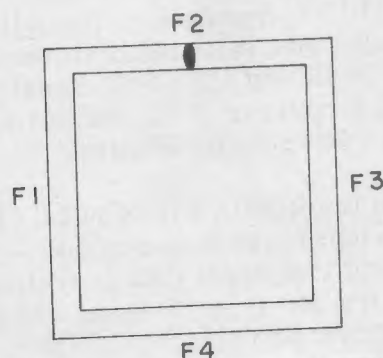

Figure 4-13.—F2 Peaked.
l. Rotate the BFO MICRODIAL counterclockwise until the dot returns to the center of the CRT. Now rotate the F2 DEFL GAIN clockwise until the dot is slightly off the center of the CRT. Adjust the MICRODIAL and F2 DEFL GAIN until the dot is between the upper horizontal lines of the CRT DISPLAY (see figure 4-13). Note the BFO MICRODIAL reading at the F2 peak point. This represents an input frequency of 5 kHz.